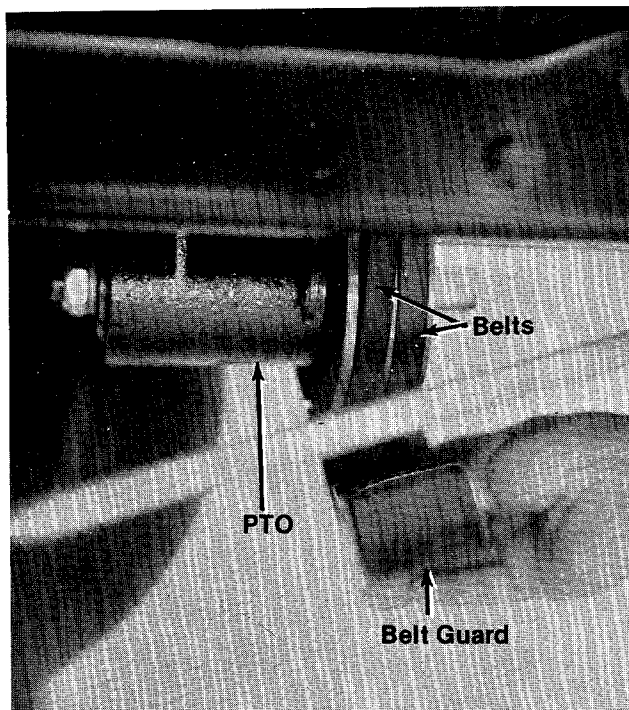

Figure 33
5. Remove the lower belt guard on the PTO and remove the belts. (See figure 33.)